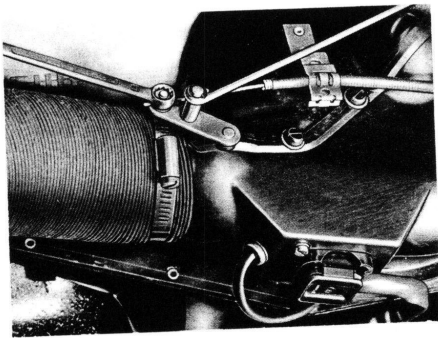

Fig. 5
- e. Disconnect the wire cable from the flap lever on the fresh air box, and push off the retaining clip for the outer cover. (See Fig. 5.)